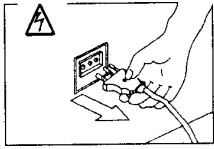

fig. 7.1
**During maintenance operations, ALWAYS disconnect the centrifuge from the main power source** (fig. 7.1).